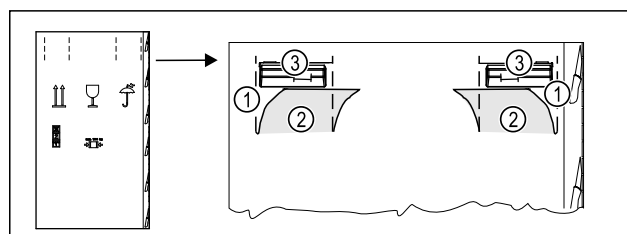

Fig. 3
- ▶ Press in the packaging carton at the top of the perforation Fig. 3 (1).
- ▶ Pull out the pressed-in flaps Fig. 3 (2).
- ▶ The right and left carrying handles Fig. 3 (3) are visible.
- ▶ Hold the appliance by the carrying handles *Fig. 3 (3)*.